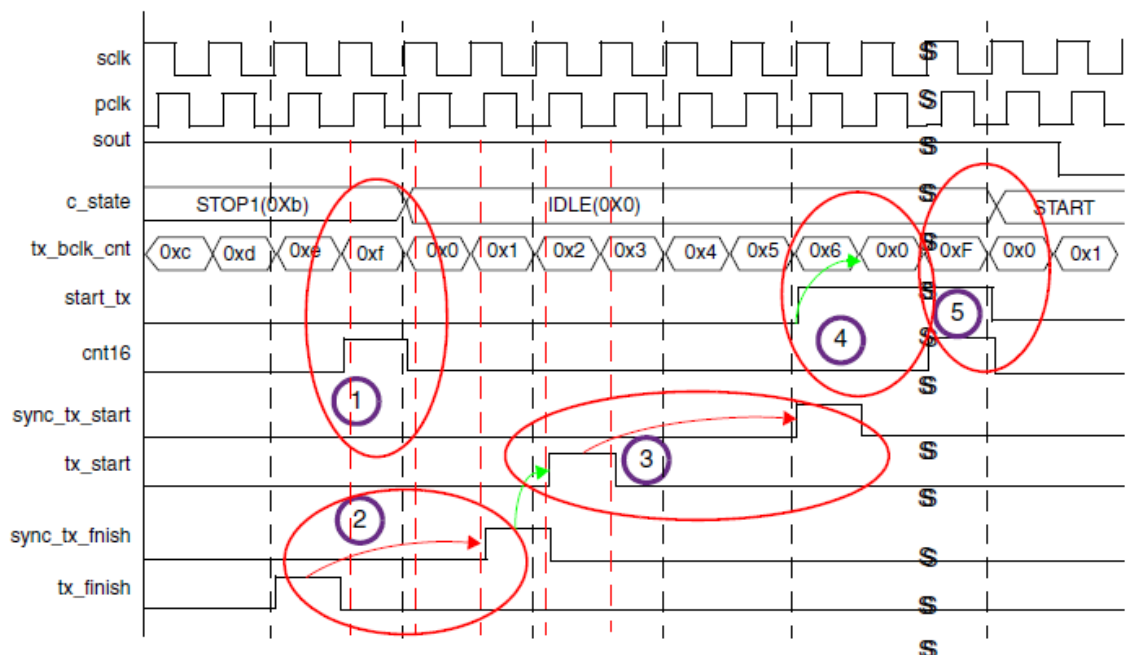

Figure 12-2-14 Character Finish to Character Start Delay
The worst_case_idle_duration can be added to the programmed STOP bit duration to give the overall STOP bit period. Figure 12-2-14 illustrates an example of character finish to character start delay.
1. The baud divisor is set to 1 ($\{DLH, DLL\} = 1$), so every sclk is a baud clock cycle. The transmit state machine changes state every sixteen baud clocks—eight in the case of a half STOP bit. At this point in Figure 12-2-14, after 16 baud clock cycles of the STOP1 state, the state machine enters the IDLE state on the next cycle because start_tx is not yet asserted.